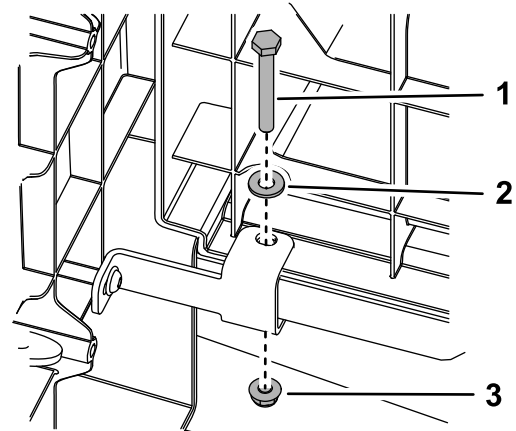

Figure 4
4. Remove and retain the bolt, washer, and nut securing the rear seat-base panel to the floor plate on the left and right sides of the machine (Figure 4).